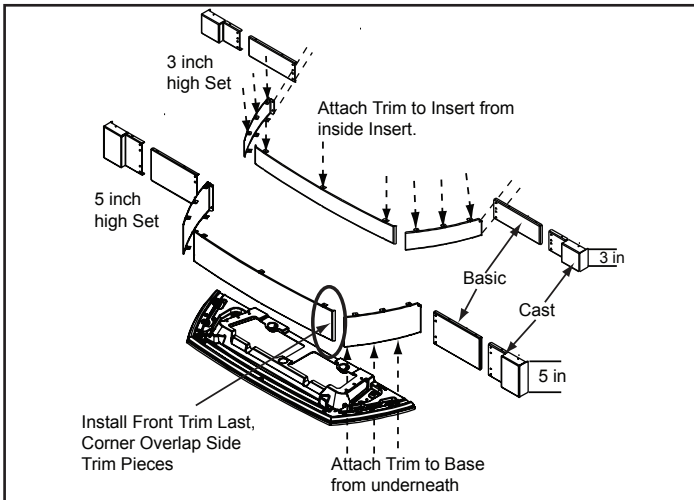

Figure 19.1
4. Lay the cast bottom face up. Attach the 2 sides FIRST and then the front piece. **Figure 19.1 on pg. 19**